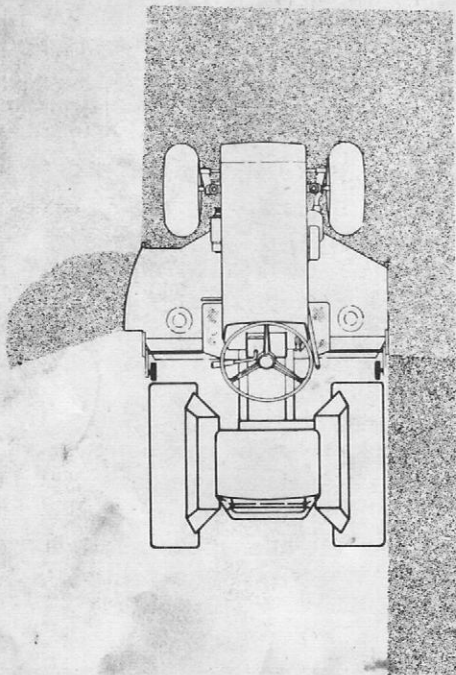
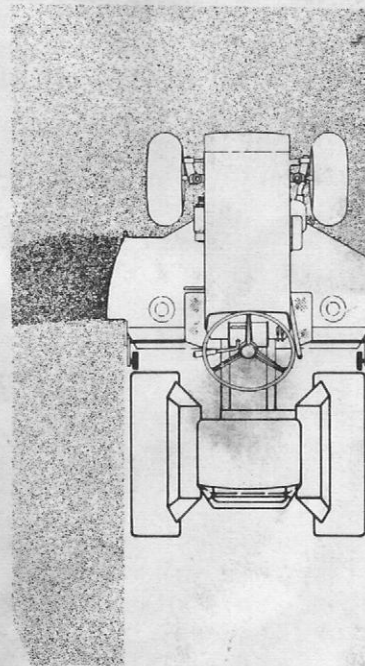

Figure 2.
Figure 3.
4. Figures 2 and 3 illustrate two systems for mowing. If the grass is high or heavy, always mow to throw the clippings away from the uncut area, Figure 2. If the grass is light and more thorough mulching is desired, discharge the clippings toward the center of the uncut area, Figure 3. When mowing in this manner, a final strip of mulched clippings about three to four feet wide will remain near the center of the lawn. This can be easily raked up to leave a well groomed appearance.